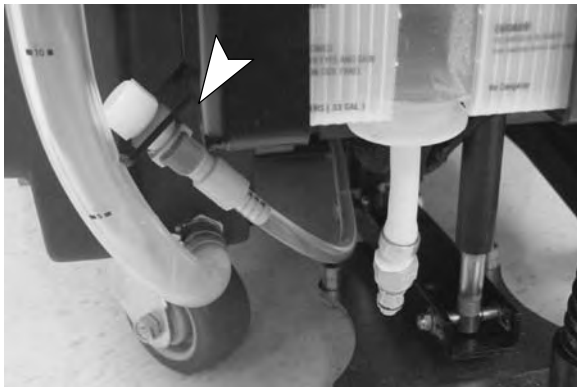

FIG. 13
3. Make sure to connect the supply hose onto the hose storing plug when not in use (Figure 13). This will prevent the FaST solution system from drying out and clogging up the supply hose.